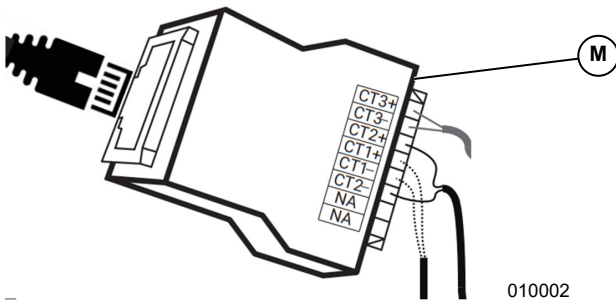

Figure 5-9. RJ-45 Breakout Adapter
- See **Figure 5-9**. Connect CT leads to RJ-45 Breakout Adapter (M), using the wire coding shown in **Table 5-8: CT Pinout**.